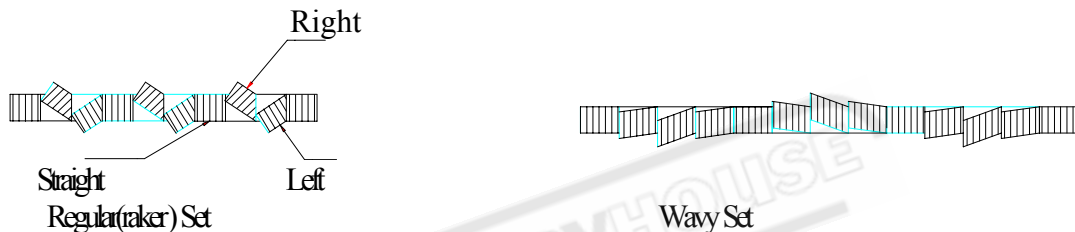

Fig. 7.1 The saw set
- ❑ Wavy set has groups of teeth set alternately to right and left, forming a wave-like pattern. This reduces the stress on each individual tooth, making it suitable for cutting thin material or a variety of materials where blade changing is impractical. Wavy set is often used where tooth breakage is a problem. This is shown in Fig. 7.1 as follows: